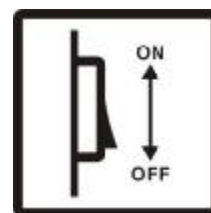

Fig 8
- I Turn on the power supply switch on the left side of the machine (Fig 8).